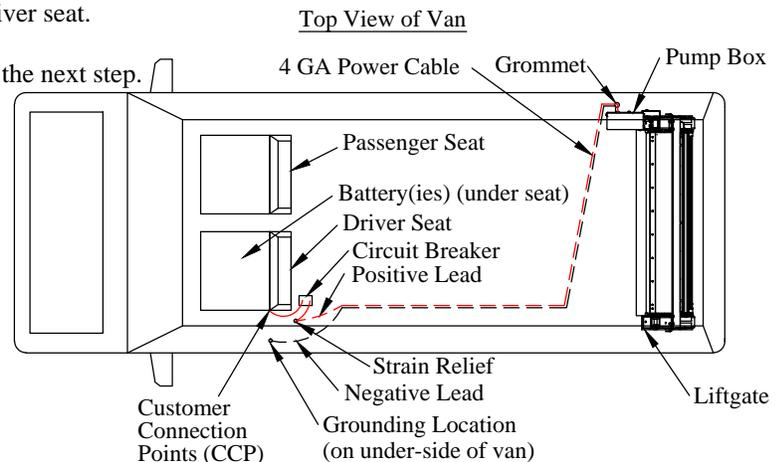

Figure 14: Electrical routing.
7. **Route** the power cables under the vehicle from the liftgate, along the frame, to a location under the driver door (Figure 14).